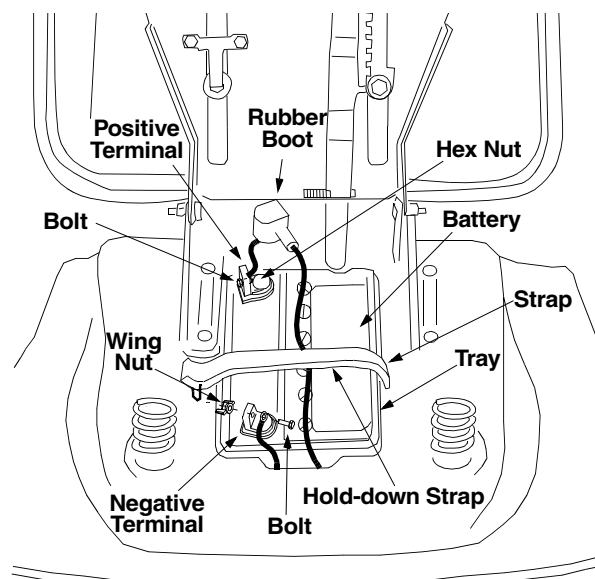

Figure 1
1. Tilt the tractor's seat forward as shown in Figure 1 and allow it to remain in this position throughout the following steps.
3. Disconnect the battery by first unfastening the wing nut found on the Negative (-) battery terminal and removing the bolt found on the opposite side. Refer to Figure 1. Position the thick, Black wire away from the negative terminal.
4. Carefully lift the protective rubber boot off of the positive terminal. Follow by disconnecting the hex nut found on the Positive (+) battery terminal and removing the bolt found on the opposite side. Refer to Figure 1. Position the thick, Red wire away from the positive terminal.